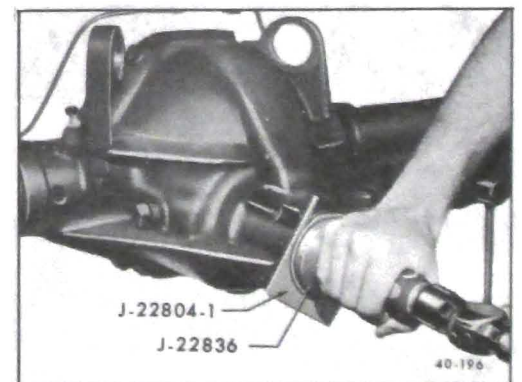

Figure 40-197 - Installing Pinion Oil Seal
13. Coat cavity between pinion oil seal lips with front wheel bearing grease and install the seal into the carrier bore using Installer J-22836 and Spacer J-22804-1. Rotate spacer occasionally to insure that seal is not slanted in carrier bore. See Figure 40-197.